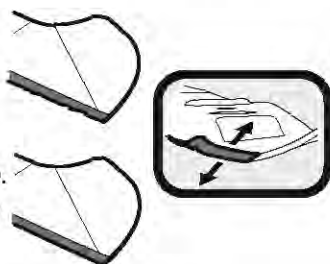

Figure 52
1. To properly sharpen the cutting blades, remove equal amounts of metal from both ends of the blades along the cutting edges, parallel to the trailing edge, at a 25° to 30° angle. Always grind each cutting blade edge equally to maintain proper blade balance. See Figure 52.